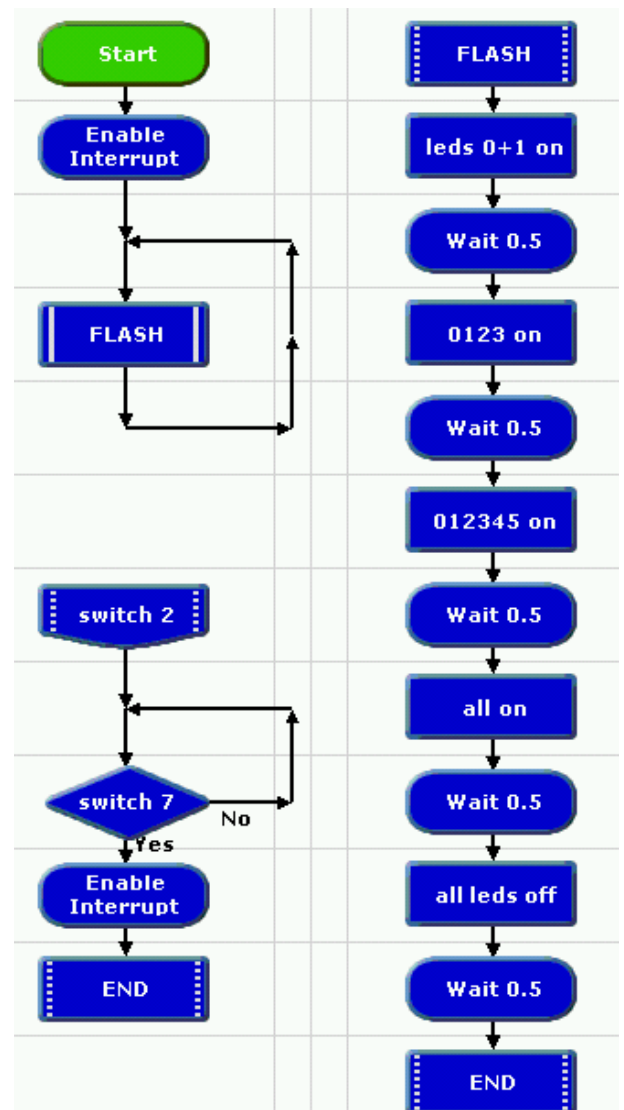

Fig 14. Using an Interrupt to freeze a flashing light sequence at any point.
However, an Interrupt checks a digital input continuously while the program carries out other actions. For example, the program shown in Fig 14 flashes the LEDs on the T-board in a continuous sequence. If you press switch 2 at any time, the sequence stops and the program waits in a Decision loop until you press switch 7 to start the sequence flashing again.
- Build the program shown in Fig 14. Use the information below to help you.